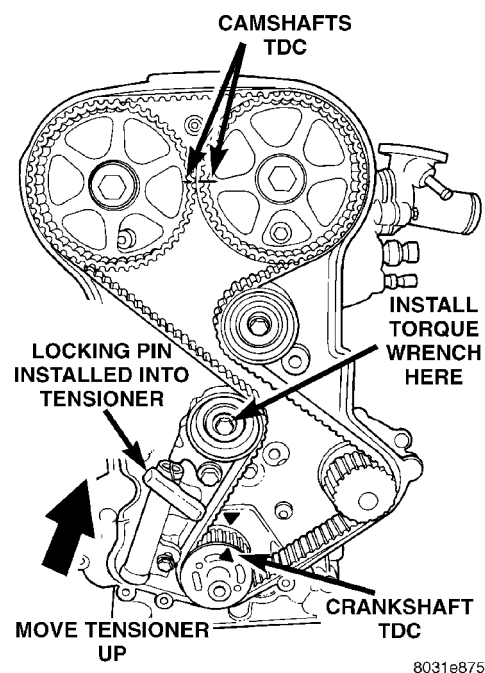
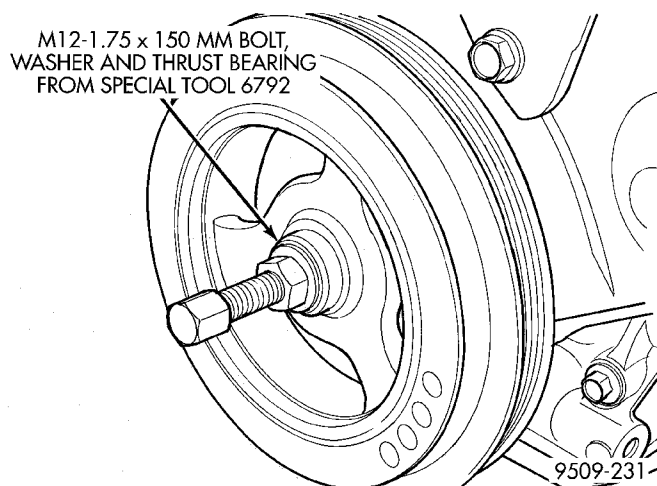

Fig. 49 Adjusting Timing Belt Tension
Fig. 50 Crankshaft Damper—Installation
(7) Install timing belt in this direction. Starting at the crankshaft, go around the water pump sprocket, idler pulley, camshaft sprockets and then around the tensioner pulley (Fig. 49).
(8) Move crankshaft sprocket to TDC to take up belt slack. Install tensioner to block but do not tighten fasteners.
(9) Using a torque wrench on the tensioner pulley apply 28 N·m (250 in. lbs.) of torque to tensioner (Fig. 49).
(10) With torque being applied to the tensioner pulley move the tensioner up against the tensioner pulley bracket and tighten fasteners to 31 N·m (275 in. lbs.).
- (11) Pull tensioner plunger pin. Pretension is correct when pin can be removed and installed freely.
- (12) Rotate crankshaft 2 revolutions and check the alignment of the timing marks (Fig. 49).
- (13) Install front half of timing cover.
- (14) Install engine mount bracket.
- (15) Install right engine mount. Refer to procedure outlined in this section.
- (16) Remove jack from under engine.
- (17) Install crankshaft damper using M12 1.75 x 150 mm bolt, washer, thrust bearing and nut from Special Tool 6792. Install crankshaft damper bolt and tighten to 142 N·m (105 ft. lbs.) (Fig. 50).